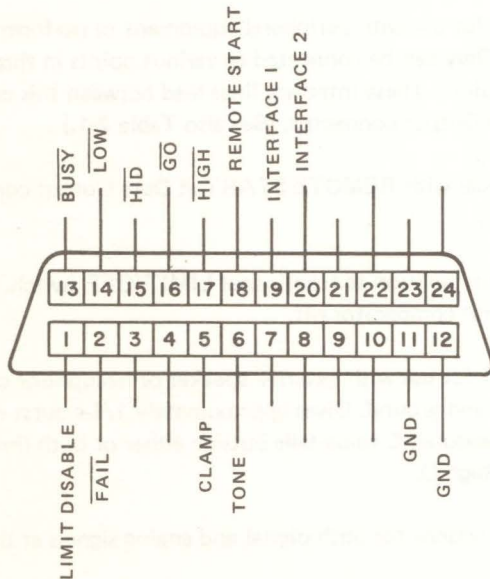

Figure 2-4. Comparator connector, S05, seen from rear of instrument.
2.4.3 Comparator Connector, A-S05. Figure 2-4.